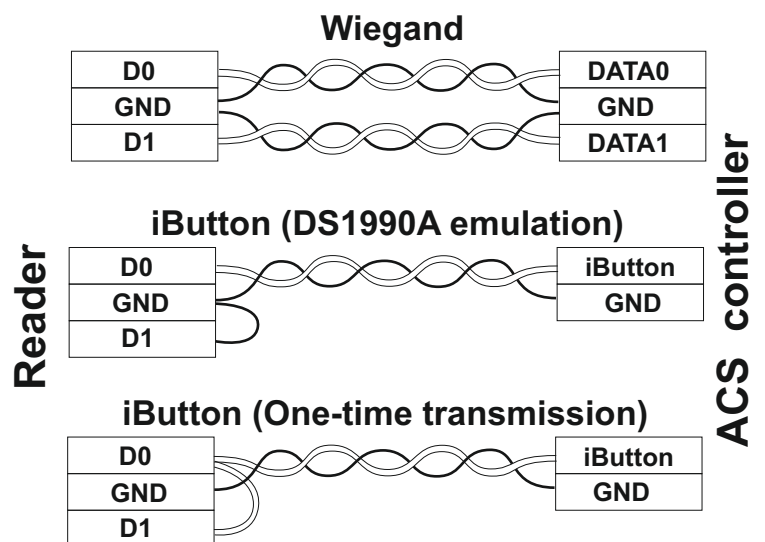

Figure 3. Choosing the transmission protocol.
- Lead the wires into the bottom lid and connect them to reader terminals, according to Figure 3 (Connection layout). The red LED indicates that the PCB has been powered.
Factory installations: the mode 2.1.1, the transfer protocol is selected by closing of outputs (Fig. 3), type of a line - on RS-485: Mifare[464B84D4] 1K(0004,08)132,19270, "No Card".